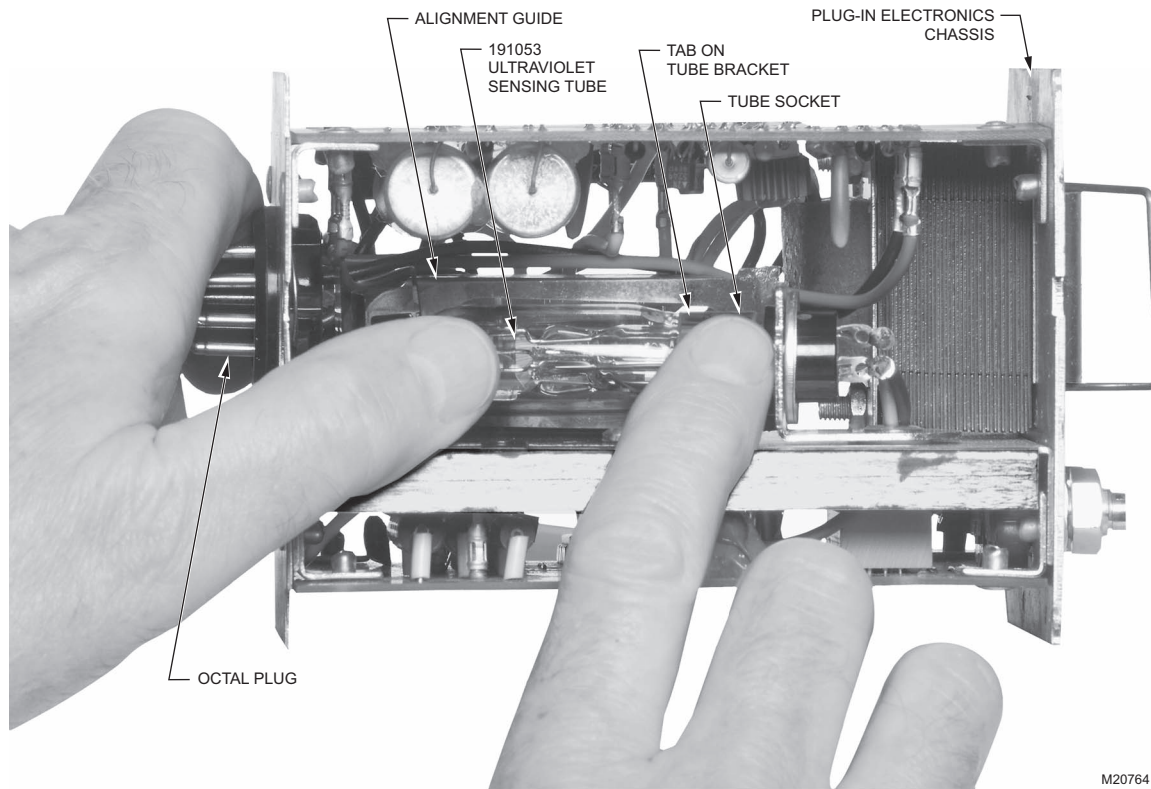

Fig. 19. Replacing the ultraviolet sensing tube.
2. Locate the sensing tube near the top of the chassis. (See Fig. 19.)
Be very careful not to kink or otherwise damage the shutter (Fig. 19).